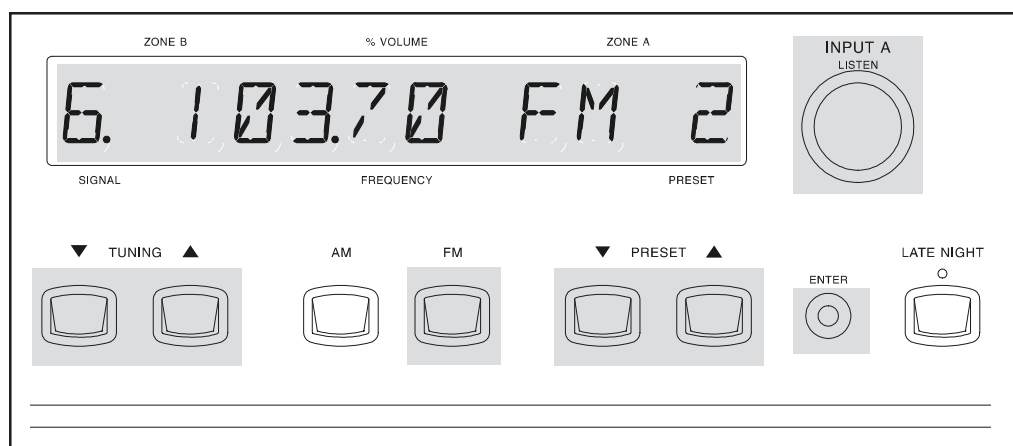

Figure 25
1. Select TUNER with the front panel INPUT A switch or the Remote Control TUNER pushbutton. Refer to Figures 25 & 26.